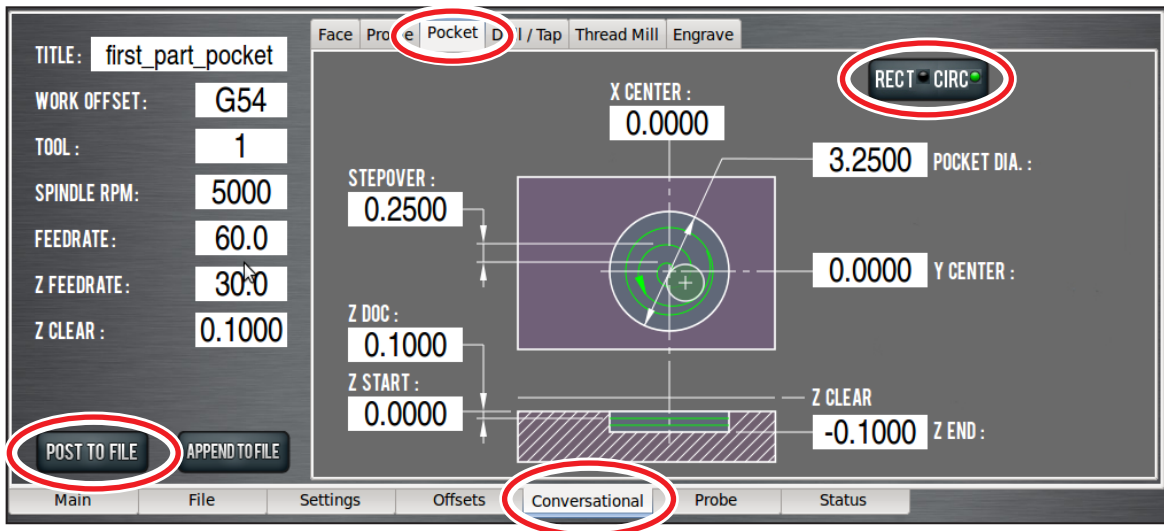
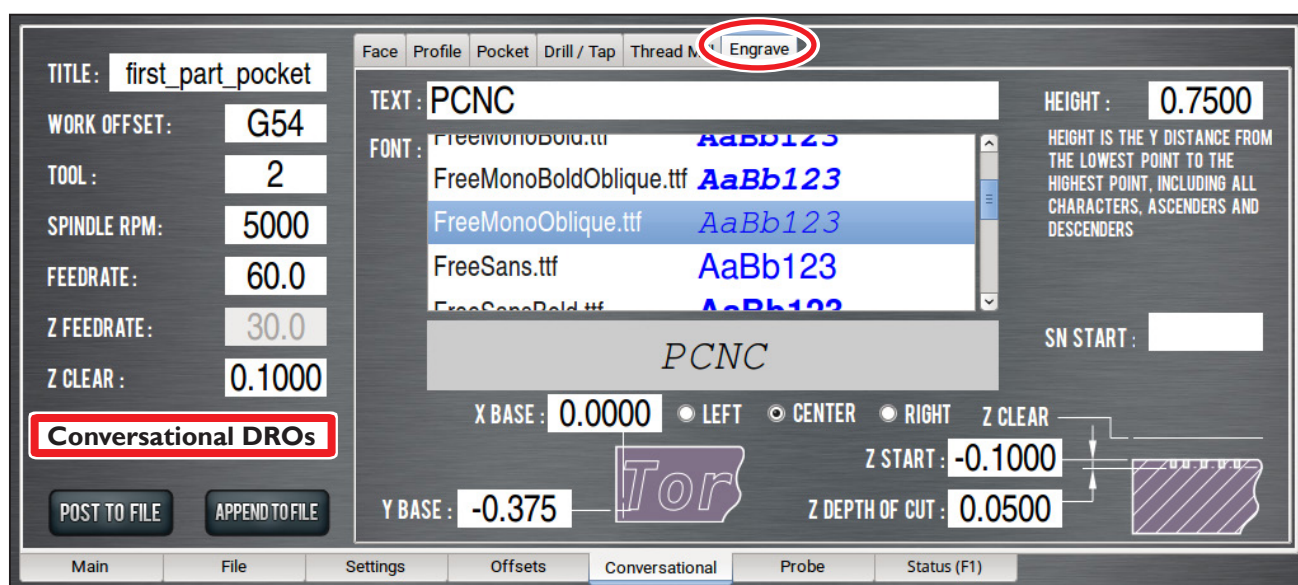

Figure 5.10
Figure 5.12
To write code for the first operation, click the *Conversational* tab (see **Figure 5.10**). The *Conversational* screen is divided into two sections: parameters common to most operations are displayed on the left and operation-specific parameters (including part geometry) are displayed on the right.
Click the *Pocket* tab to bring up the pocketing screen. Click the *Rect/Circ* button to bring up the circular pocket screen (see **Figure 5.10**). Use this screen to generate code to create a shallow pocket (0.1000" deep and 3.250" in diameter). The conversational DRO fields should be self-explanatory and are covered in detail in chapter 6, *PathPilot Interface*, but for now, enter the values seen in **Figure 5.10**.
- Units are expressed according to the current G20/21 setting. If you are in G21 (metric), the feed rates will be in mm/min and the coordinates in mm. For the purposes of this tutorial, use imperial units (G20). You can check the current G20/21 setting by inspecting the string of active G-codes next to the word *Status* at the bottom middle of the screen (see **Figure 5.12**).
- After the values from **Figure 5.10** are entered, click the *Post to File* button to save the G-code.
Go back to the *Conversational* screen and click on the *Engrave* tab (see **Figure 5.10**) and the Engrave screen opens (see **Figure 5.12**). Enter the values shown in **Figure 5.12**, *Conversational DROs*. Make sure to enter *PCNC* in the text field.
1. Select the *FreeMonoOblique.ttf* font (see **Figure 5.12**) and change the *Tool* DRO to 2 for the engraving operation.
2. Press the *Append to File* button (see **Figure 5.12**). A file chooser dialog opens that allows you to select the file to which you want to add the engraving G-code.